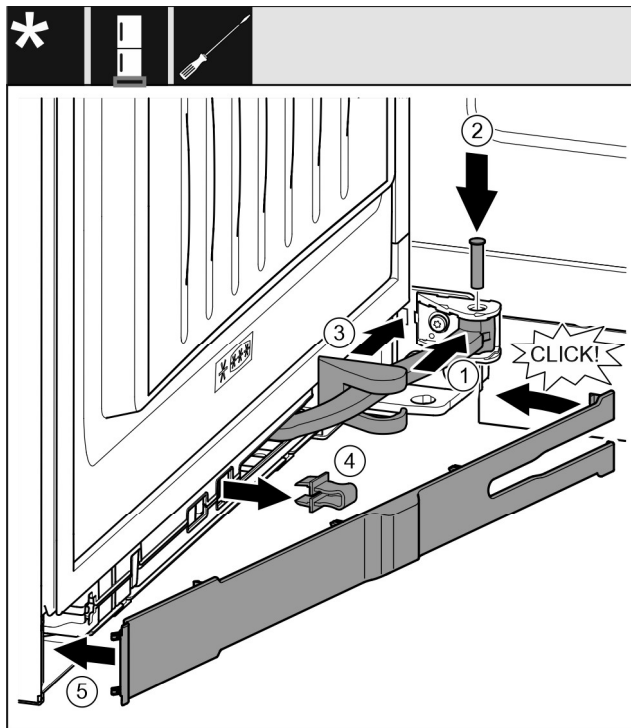

Fig. 46
- ▶ Turn the joint Fig. 46 (1) in the hinged suspension.
- ▶ Use a screwdriver to insert the pin Fig. 46 (2) into the hinged suspension and joint. In the process, make sure that the latching cam is correctly positioned in the groove.
- ▶ Slide the swap bearing block cover Fig. 46 (3) along the joint and install it above the hinged suspension.
- ▶ Remove the locking device Fig. 46 (4).
- ▶ Attach the panel Fig. 46 (5) from the handle side and swivel it on.